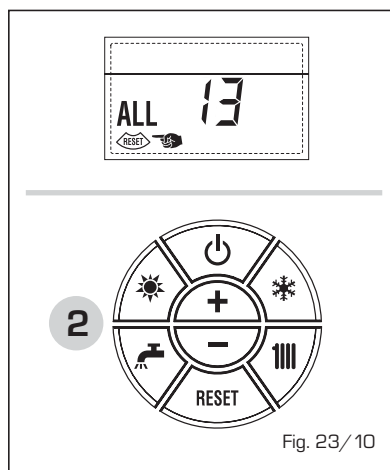

Fig. 23/10
– **ANOMALÍA Sonda HUMOS “ALL 14” (fig. 23/11)**